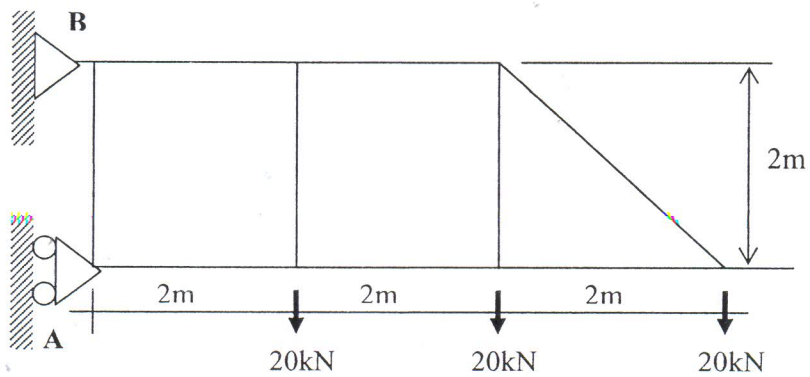

Figure 2
b) Study the structure in Figure 2 below and find the reactions at the support A and B.